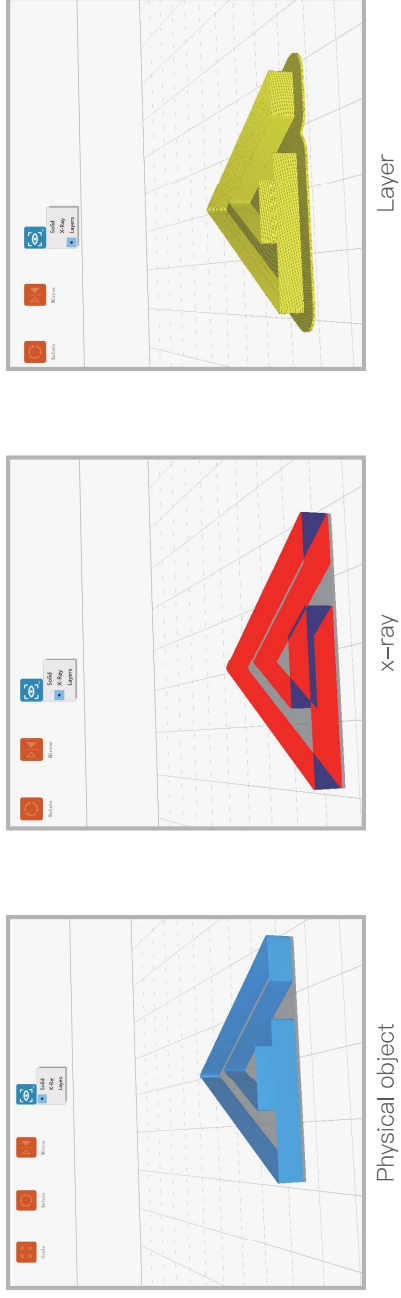

Figure2-01
1. View: It is the way of viewing, including physical object, x-ray and layer. We usually set it to real objects by default, and x-ray will be used when viewing internal structures, which is rarely used. Use layers to display when preparing for preview after saving the file, as shown in Figure 2-01.